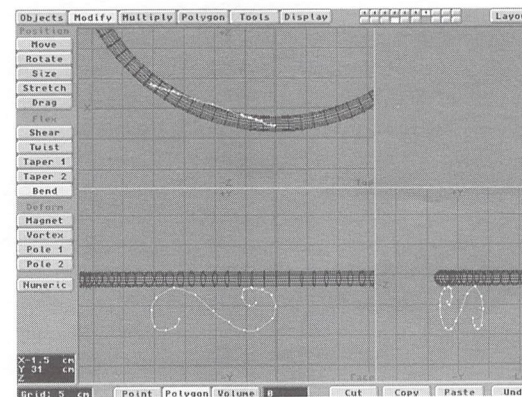

Figure 6
- Using Rotate (Modify), rotate the curve somewhat in the top view, so that the curve follows the arch of the top support, to which it would be connected. Make sure that one end of it is aligned with 0 on the X axis (Figure 6).